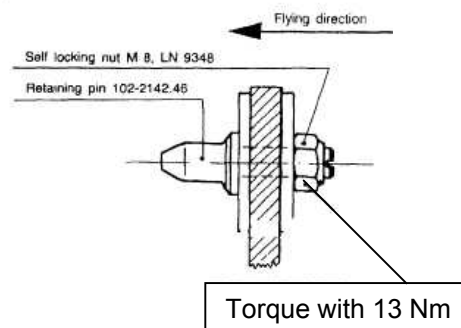

Figure 2
- if play is noticed in the rear attachment the retaining pins 102-2142.46 must be replaced as follows: (refer to figure 2):